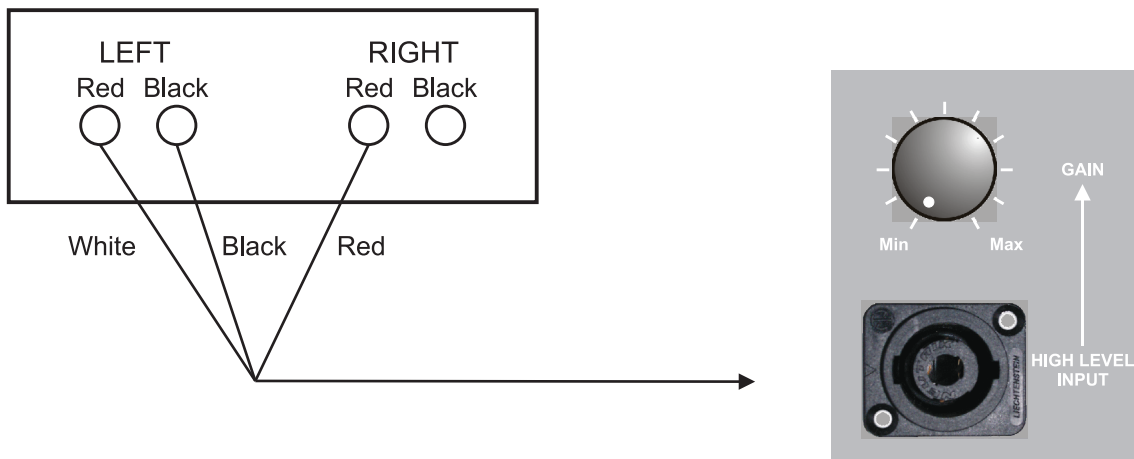
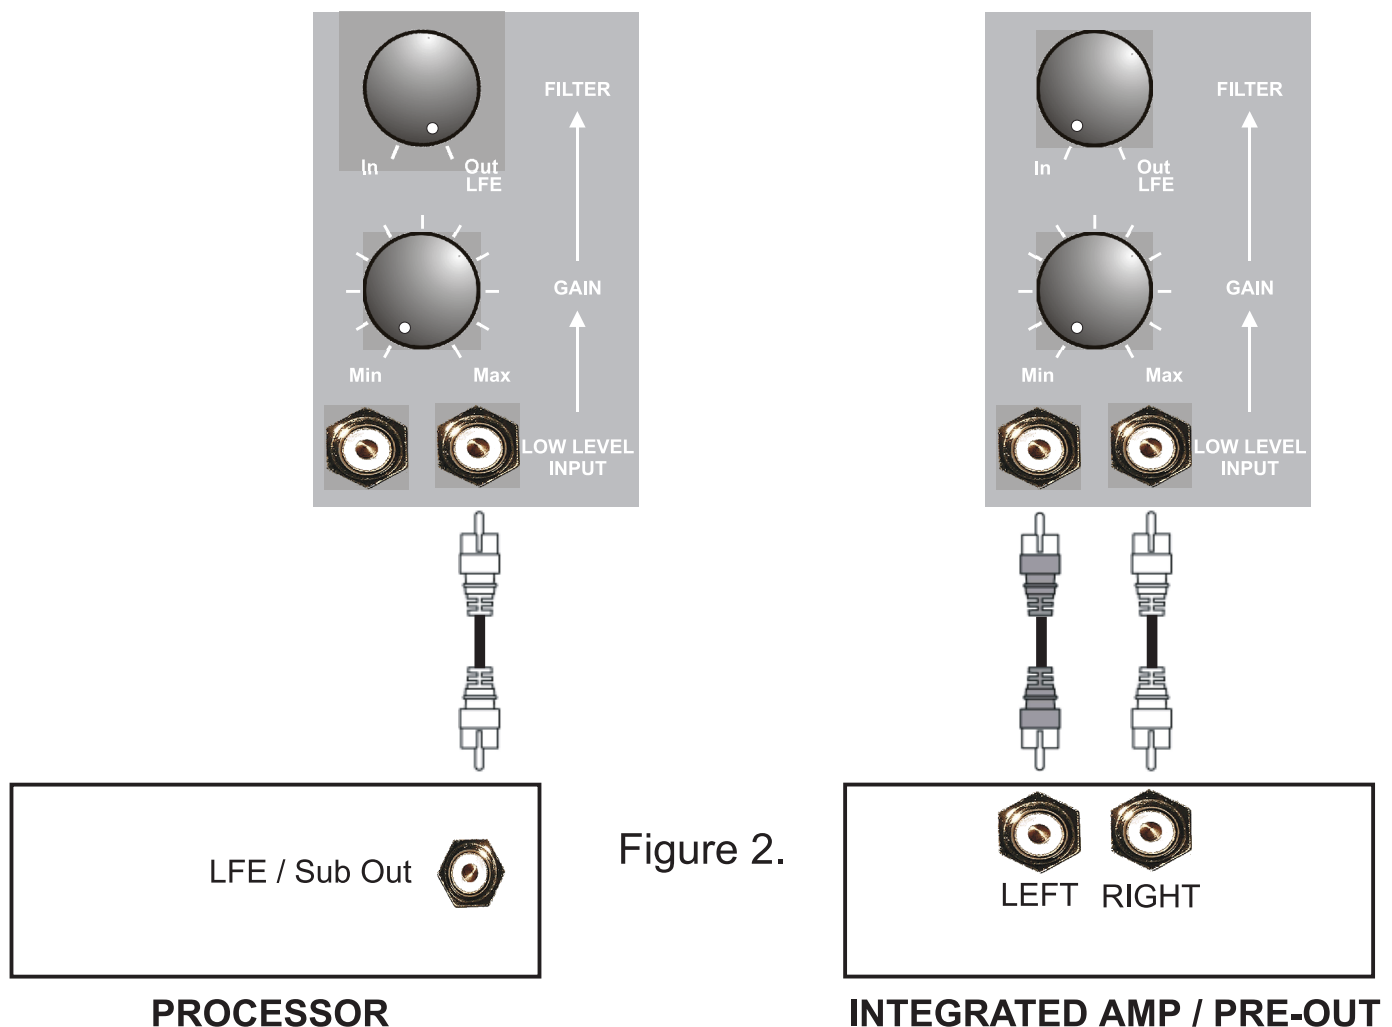

Figure 1.
Figure 2.
Figure 1. Shows a diagram on how to connect the high level input. Using the optional Neutrik lead, connect the P10-150-GEM to the output of your amplifier via your existing speaker plug or to a spare set of speaker terminals if available. In effect you are Bi-Wiring your P10-150-GEM to your power amp. Please note that the Neutrik cable has only three leads and is arranged this way to preserve the star earthing of your amplifier (assuming it has a star earth arrangement).
Figure 2. Shows a diagram on how to connect the low level input. Using the supplied RCA to RCA interconnect, plug one end into the P10-150-GEM low level input and the other end into the dedicated sub output on your amplifier or processor. If a sub out is not available then you can use a spare set of pre-amp outputs.
- Connect your P10-150-GEM as shown in Figure 1 or Figure 2. Then attach your subwoofer to the power supply using the power cable supplied, at this point have the power switch in the off position.